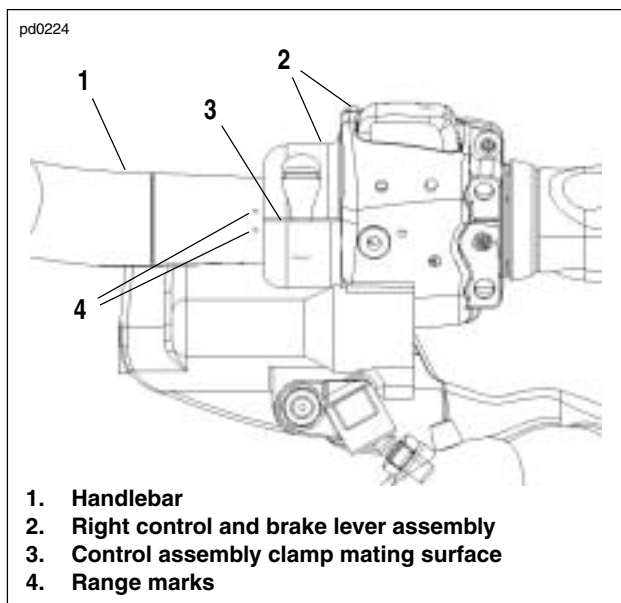

Figure 7-11. Handlebar Control Assembly (Bottom View, Right Side Shown)
2. See Figure 7-11. Range marks (4) are located on bottom of handlebar adjacent to front brake lever clamp assembly. Rotate switch housing and front brake master cylinder assembly (2) **slightly** for most comfortable position. Make sure control assembly is positioned so that clamp mating surface (3) is located in area between range marks.